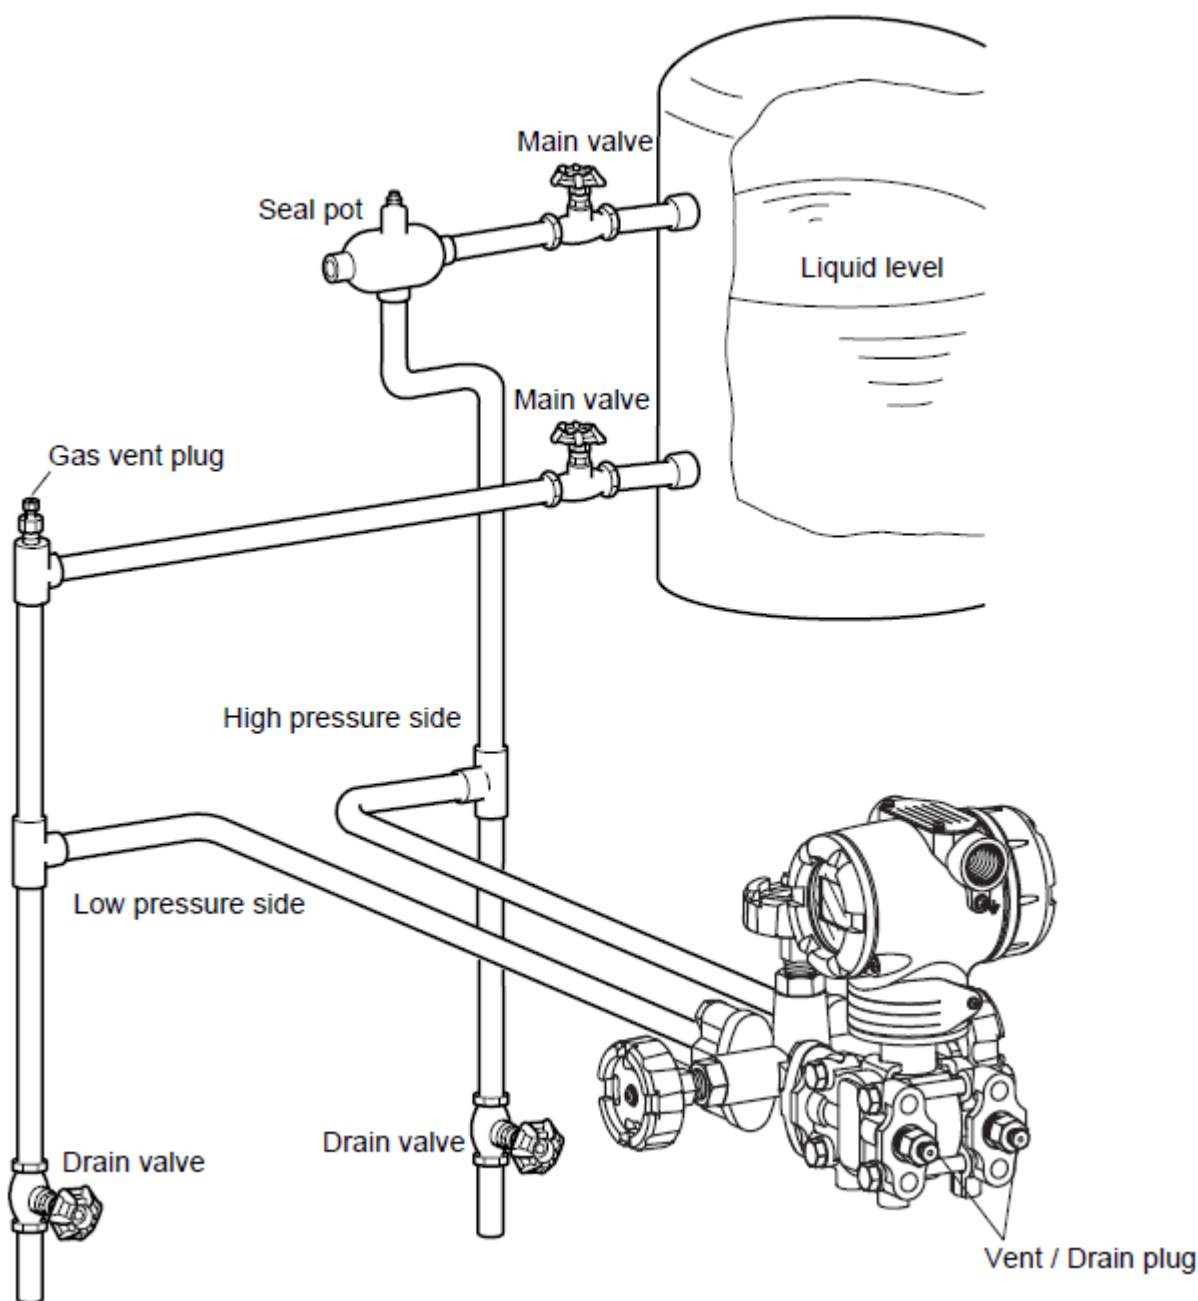

Figure 11. Typical Closed Tank (Wet Leg) Piping Installation
- ◆ After completing piping work, check for pressure leaks around the connecting pipe, the transmitter, and the 3-way manifold valve. Figure 11 shows a typical installation.